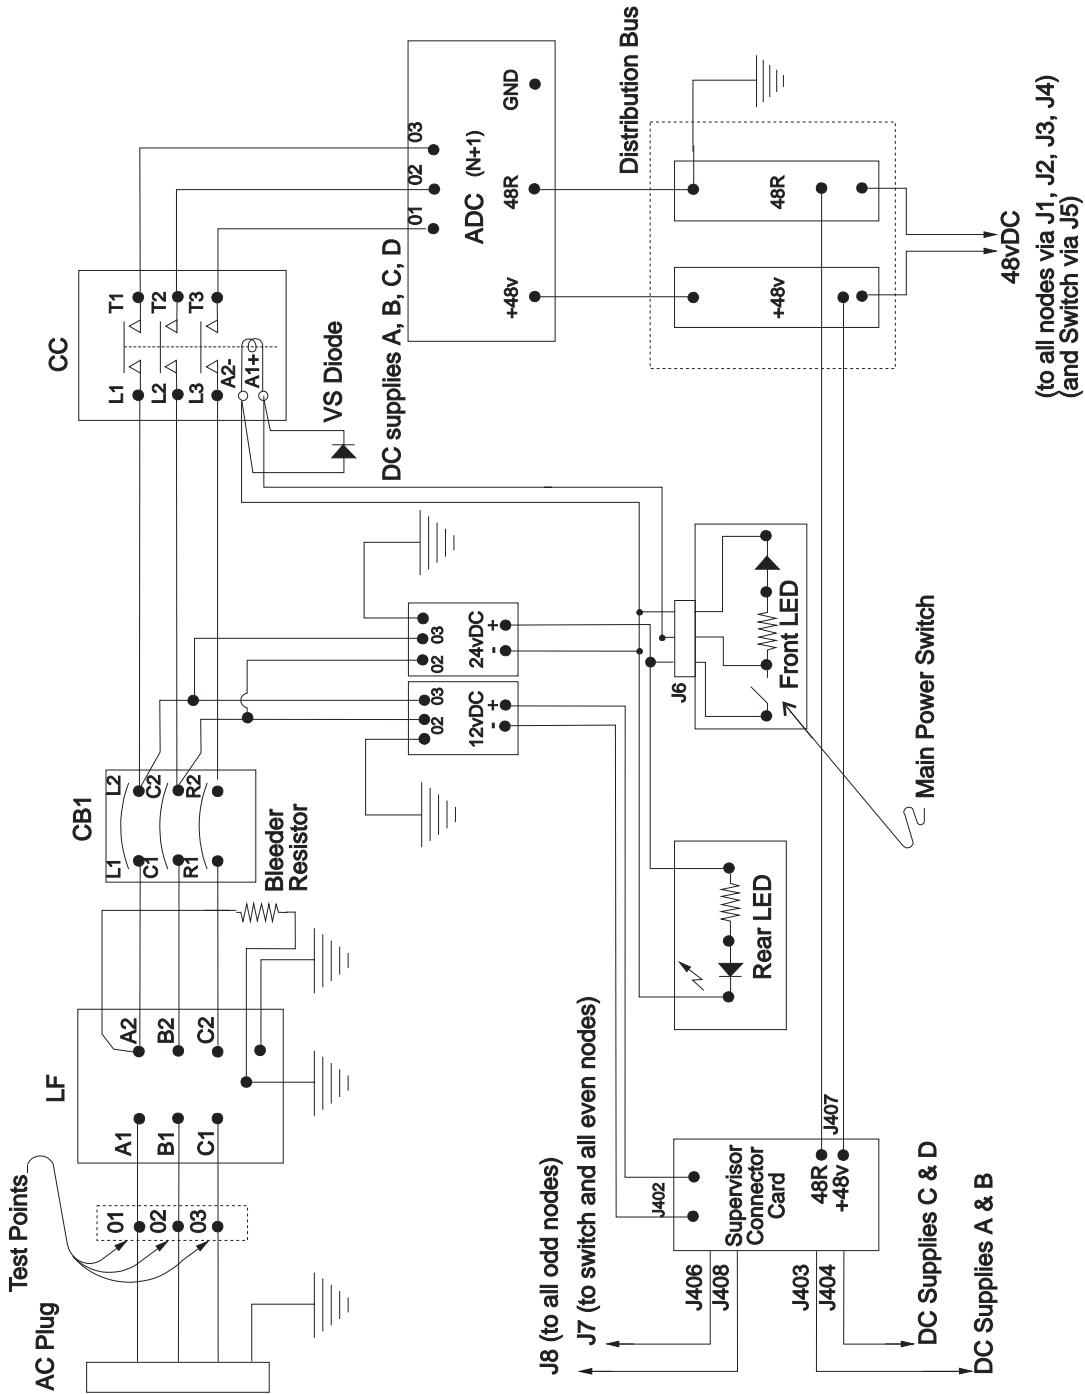

Figure 1-21. Wiring Diagram of RS/6000 SP Power Distribution Unit
- Figure 1-21 on page 1-228, for a view of the ac wiring diagram for the RS/6000 SP power distribution unit.
- Isolate ac short between line filter and circuit breaker input using Figure 1-21 on page 1-228 as a reference.